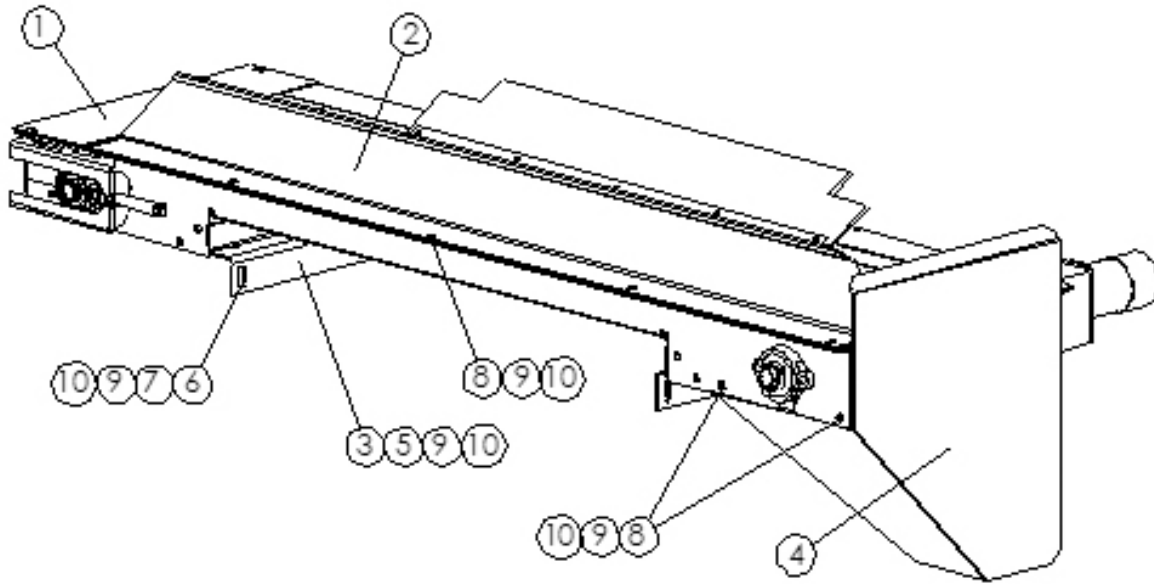

Figure 7 – Cross Conveyor Assembly
The Cross Conveyor (1) is shipped with the Front Shield (2) and Mounting Angles (3) installed backwards and the Chute (4) shipped loose. Remove the Front Shield and reinstall as shown in Figure 7 with same hardware (8, 9 & 10). Remove the Mounting Angles and reinstall as shown in Figure 7 with same hardware (5, 9 & 10), but do not tighten.
Mount the Chute (4) on the Cross Conveyor (1) using 3/8 x 1 Cap Screws, Lock Washers and Nuts (8, 9 & 10) as shown in Figure 7.